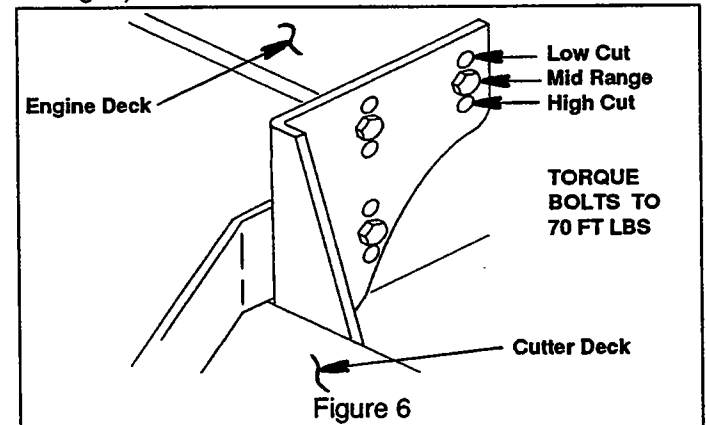

Figure 6
- a) Before beginning, determine which mounting holes are to be used to best suit the cutting height requirements of your customer. High/Medium/Low ranges (see fig. 6).
Additional range to the cutting height can be achieved by repositioning the cutter deck in relationship to the engine deck (This adjustment can also effect the pitch of the deck). There are 3 positions (see fig. 6), suggested mounting is the middle holes. For cutting lower, mount the deck in the top holes. To cut higher, mount the deck in the bottom holes. Remember to check the cutter deck belt alignment. Shim- ming or attaching the idler mounting bracket from underneath may be necessary to maintain belt life.